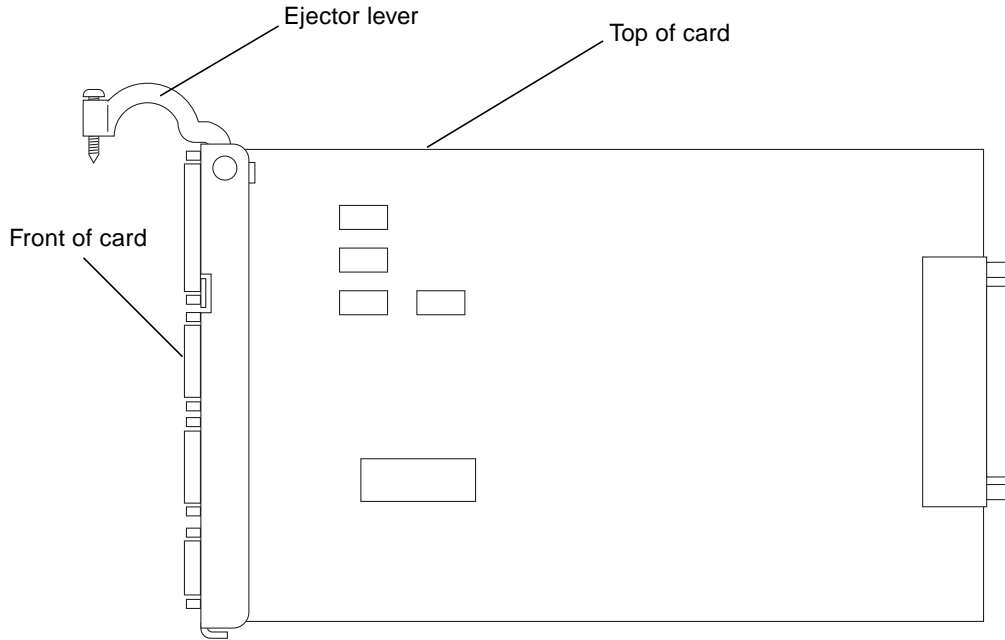

FIGURE 10-9 Proper Orientation for the Ejector Lever for Netra ct 400 Server CPU Front Transition Card
a. Flip the ejector lever up to a 90-degree angle (FIGURE 10-9).